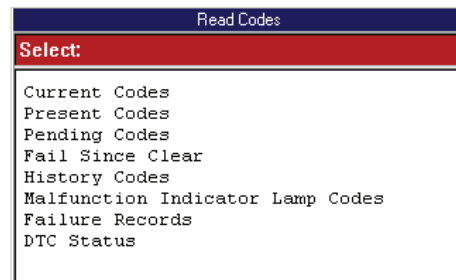

Figure 6.4: Read Codes Menu Screen Example
- If the Read Codes menu screen appears (Figure 6.4), go to step 4.